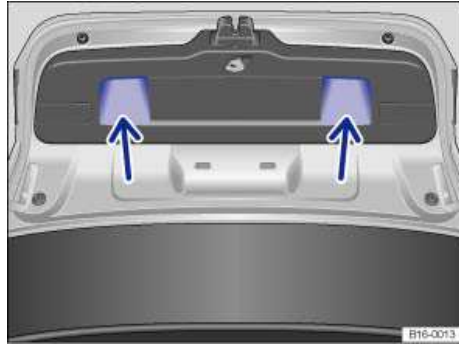

Fig. 29 Opened luggage compartment lid: Recessed grips for closing.
- Grasp one of the recessed grips in the trim of the luggage compartment lid ⇒ fig. 29 (arrows).